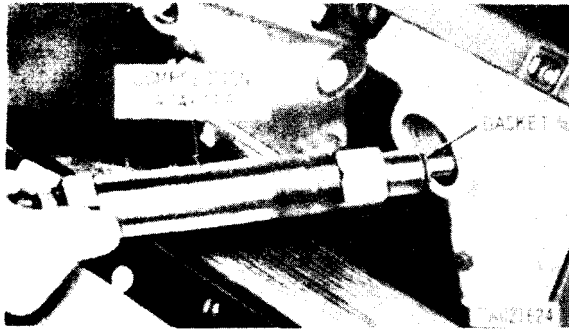
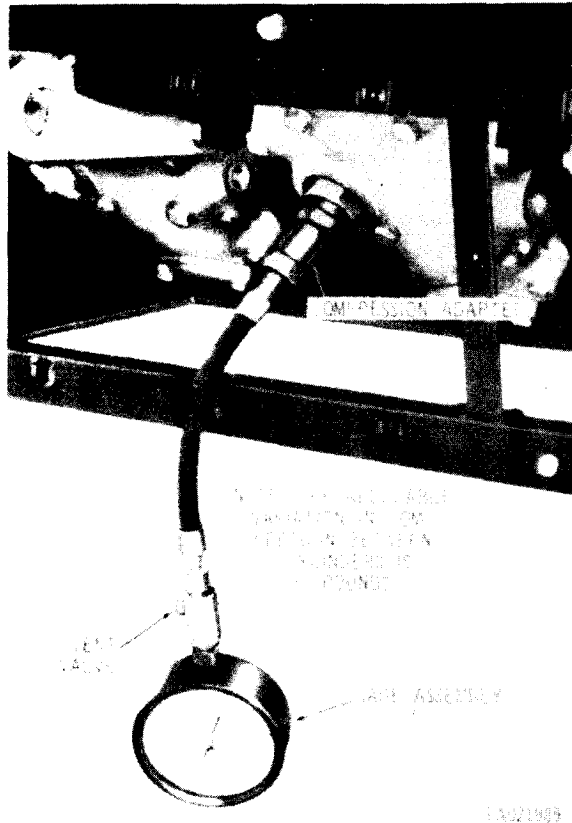

Figure 2-149. installing or removing compression adapter.
Figure 2-150. Checking cylinder compression.
(1) Position new injector nozzle gasket (fig. 2-149) on end of compression adapter, Part No. 8743025. Apply a light coating of grease on gasket so it adheres to adapter when installed in cylinder.
(2) Install adapter into fuel injector nozzle holder opening and tighten securely using crowfoot attachment, Part No. 12254244.
(3) Install gage assembly, Part No. 10899180 (fig. 2-150) on adapter, Part No. 8743025 and
tighten securely. Crank engine several seconds, or until the compression gage reaches maximum reading. Cylinder compression must be within 330 to 480 psi at engine cranking speed. Depress gage vent valve (fig. 2-150) to release pressure and reset gage to zero after compression reading is taken. Test compression on all cylinders in the same manner.
e. *Compression Variation.* After all 12 cylinders are checked, determine the pressure difference between high anti low cylinder reading. This variation should not exceed 70psi. If compression readings are below the low limit of 330 psi, the engine motoring RPM should be checked to be sure that it is 140 to 180 RPM. Compression should be checked again to confirm the previous readings before submitting an engine for overhaul. Remove compression gage from adapter. Remove adapter and gasket (fig. 2-149). Discard gasket.